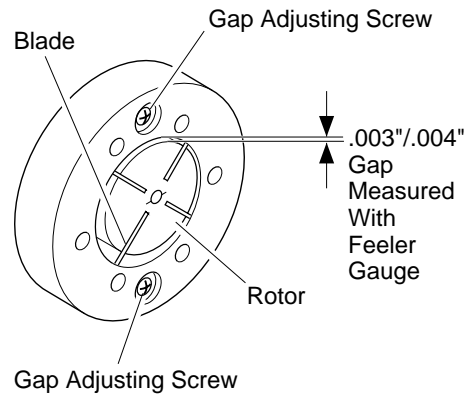

Figure 19 - Gap Adjusting Screw Locations
9. Check gap on rotor. Adjust to .003"/.004" if needed (see Figure 19).